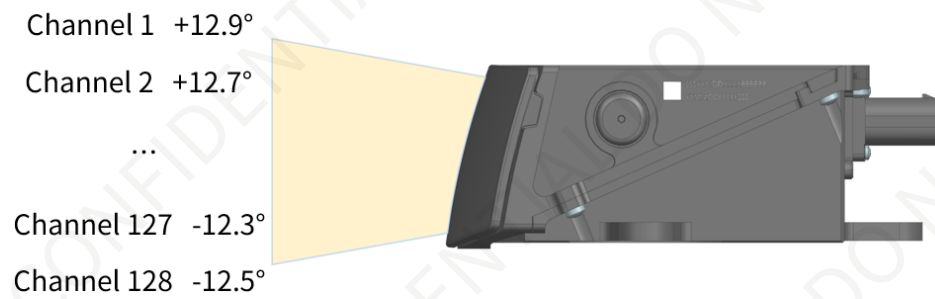

Figure 4. Channel vertical distribution
- The designed vertical resolution is 0.2° across the FOV, as shown in Figure 4. Channel vertical distribution and detailed in Appendix A Channel distribution data.